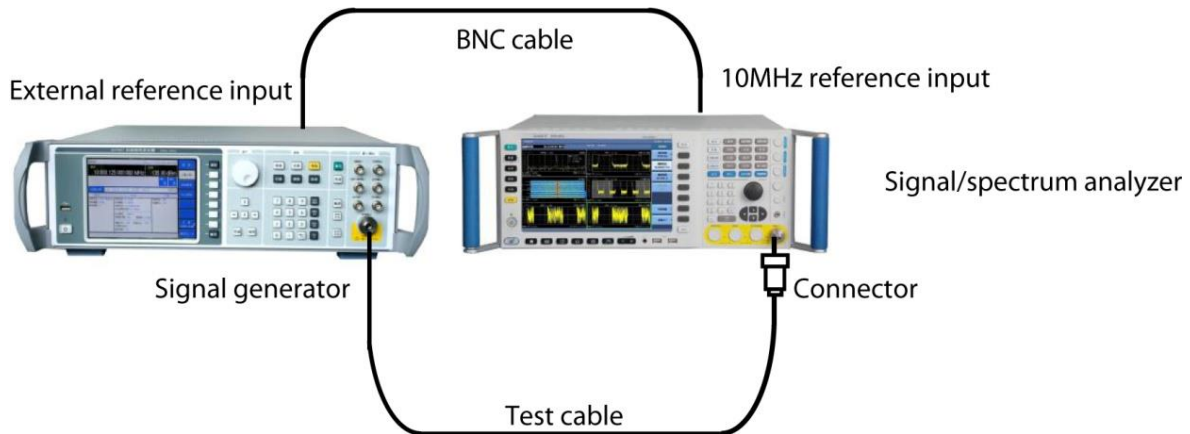

Fig. 4.39 Connection of measurement system for amplitude correction
Step 1. Connect a signal generator ranging from 1GHz to 3GHz to the Series Signal Analyzer by the cables and connector as shown in Fig. 4.39.